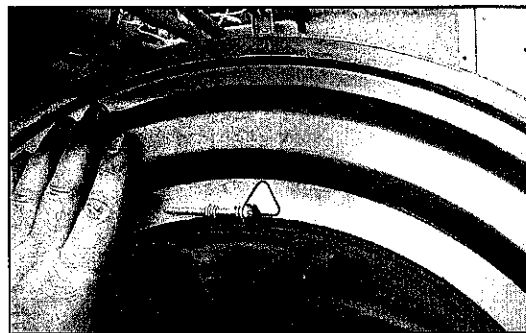

fig.32
- Position the front panel against the opening of the outer drum, the arrow point symbol (fig. 32) should signal the welding of the outer drum. Press both pieces until the edges come into contact.